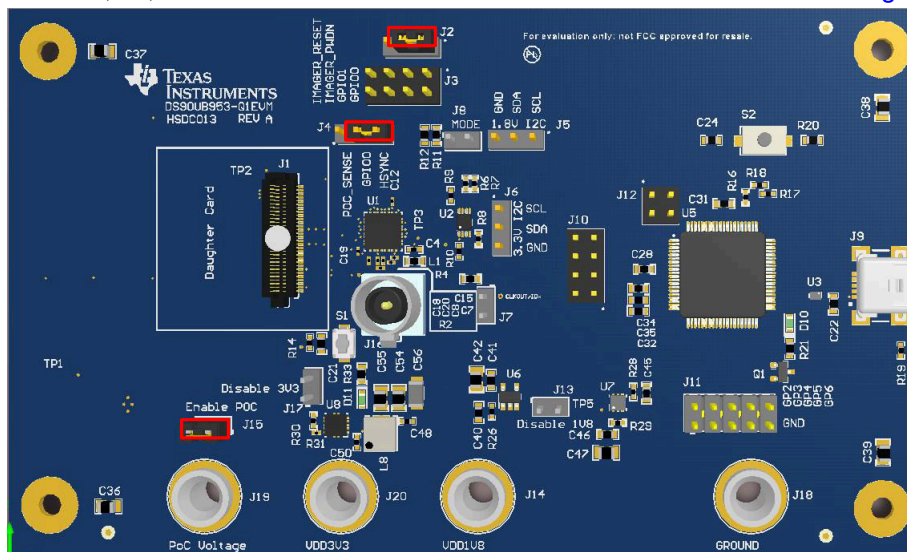

Figure 2-3. DS90UB95x-Q1EVM With Installed Jumpers
1. Ensure jumpers on J2, J4, and J15 for DS90UB95x-Q1EVM are installed as shown in Figure 2-3